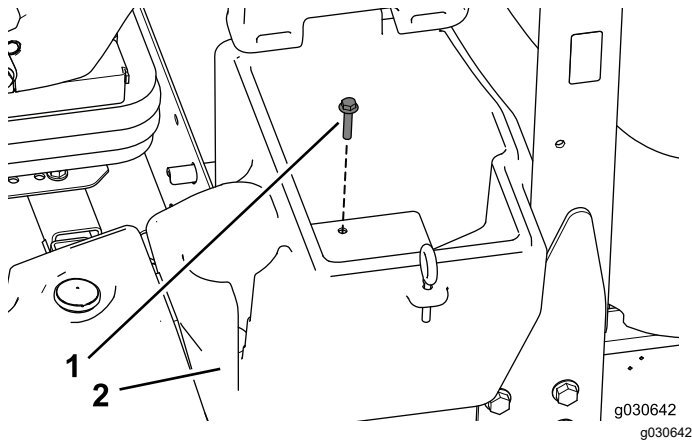

Figure 3
1. Remove and retain the bolt securing the storage compartment located on the left side of the machine (Figure 3).